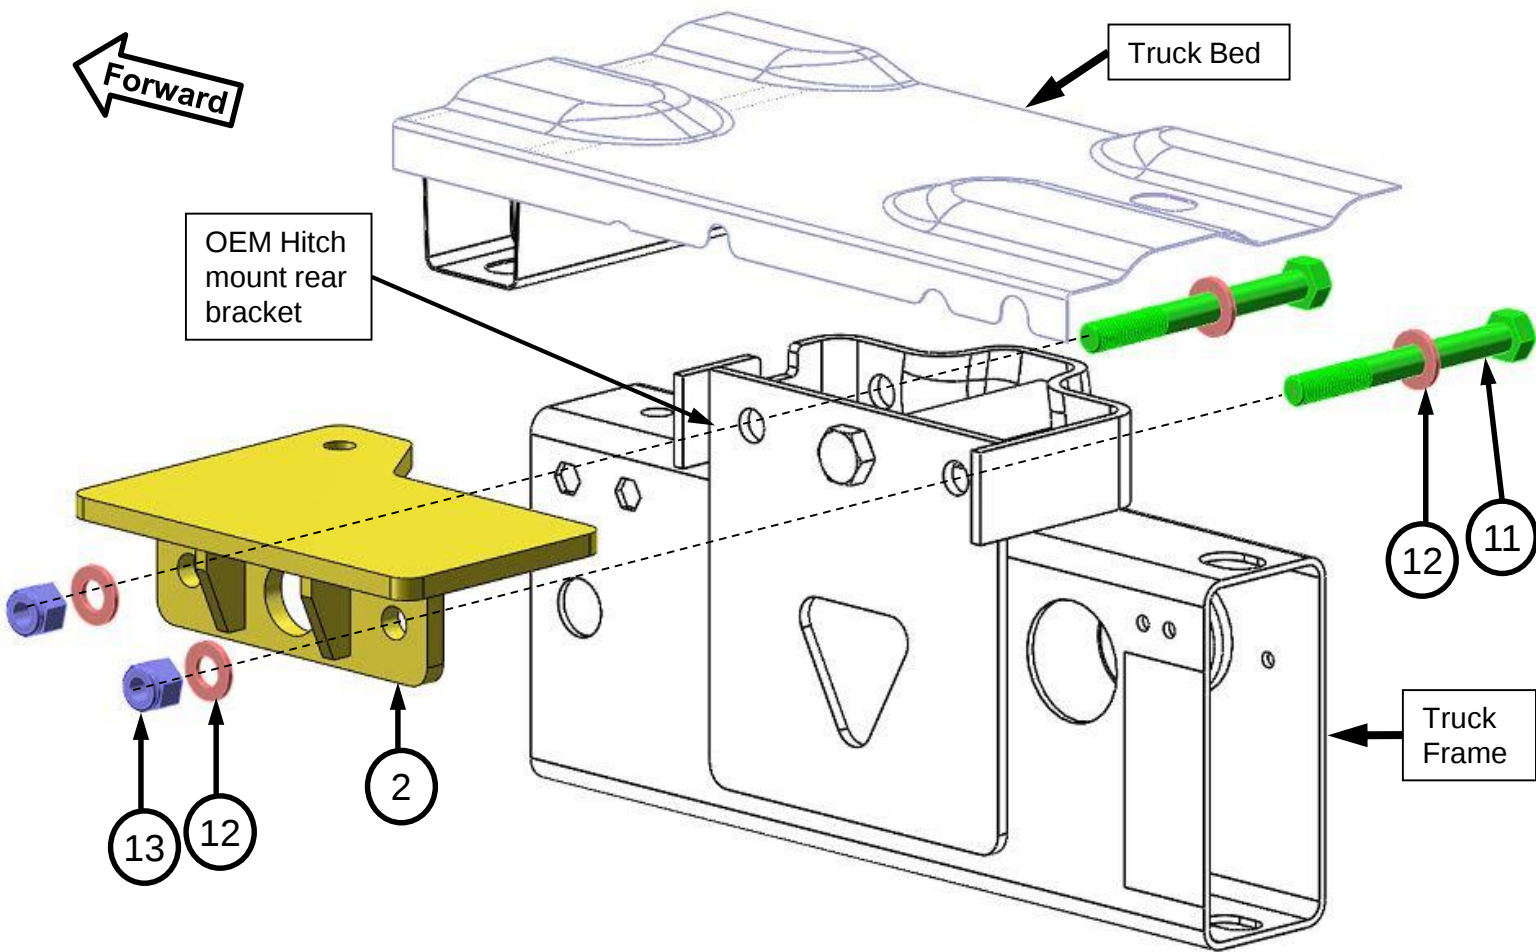

Figure 13
23. Repeat steps 22 to install the passenger side rear bracket (item #4) as shown in Figure 13.